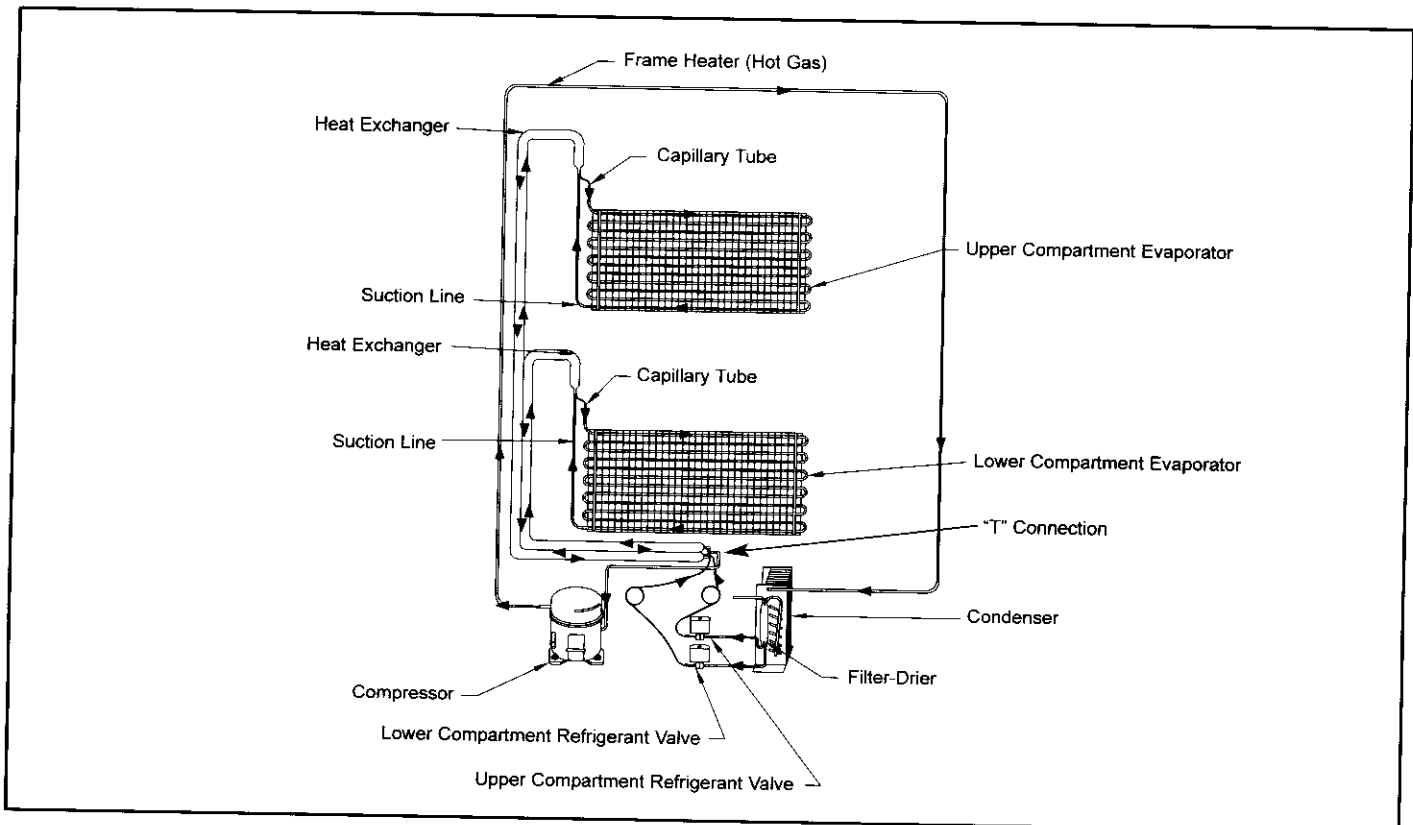

**Figure 4-12. Suction Line & Heat Exchanger**
**Suction Line & Heat Exchanger (Figure 4-12)**